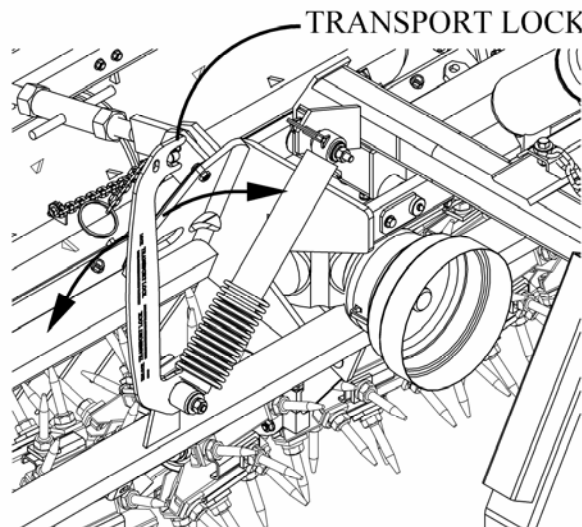

Figure 6. Transport lock
4. When traveling over rough or hilly terrain, utilize the transport lock shown in Figure 6.